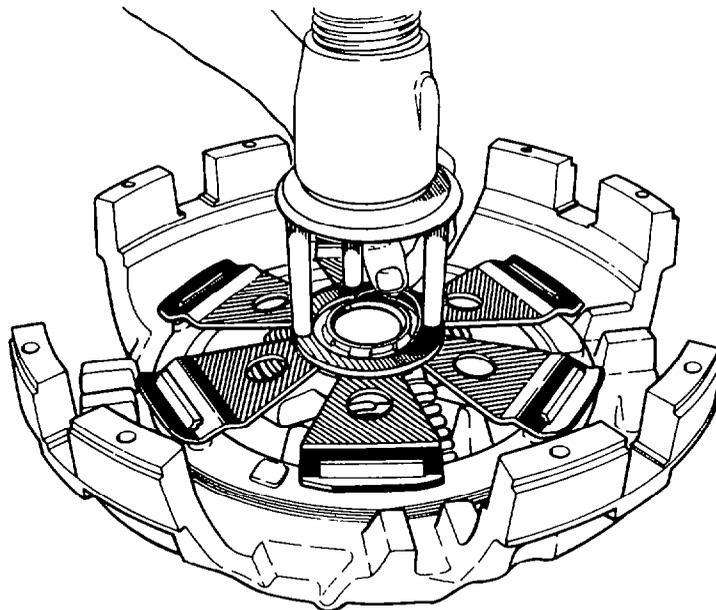

Fig. 165 — Installing Half-ring Locking Washers
- Compress the retainer and springs using the special tool until the drive lugs bottom on the clutch housing; install the half-ring locking washers (see fig. 165).